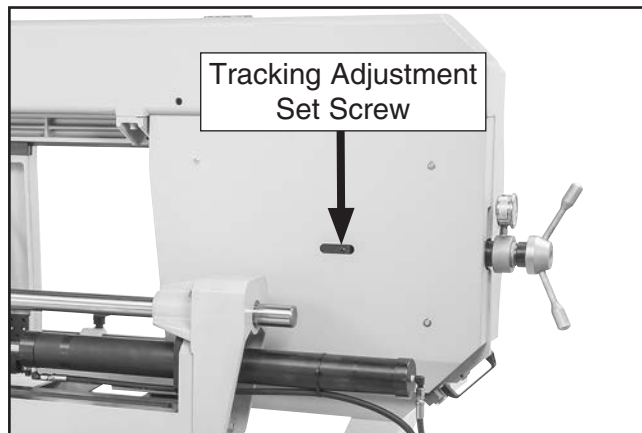

Figure 105. Tracking adjustment set screw location.
- Tighten or loosen tracking adjustment set screw to move idler wheel assembly forward or backward (see **Figure 105**).